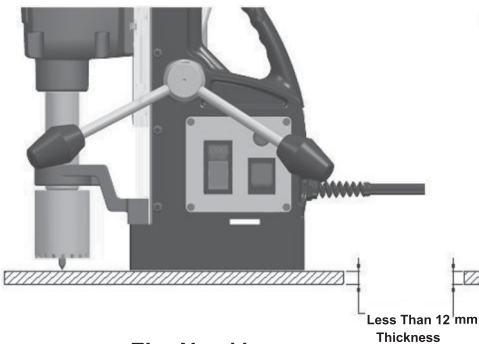

Fig. No. 11
- f) If workpiece under drilling is thin. use an iron plate larger than base as shown in fig. No. 11, 12.